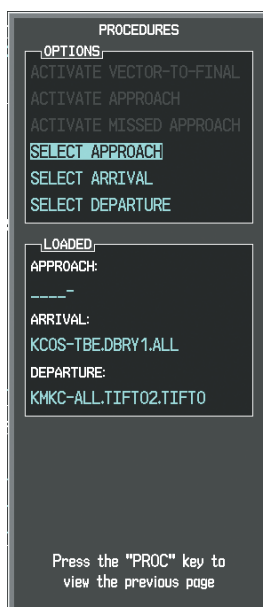

Figure 5-121 Procedures Window
- b) 'SELECT APPROACH' should be highlighted as shown in Figure 5-121.